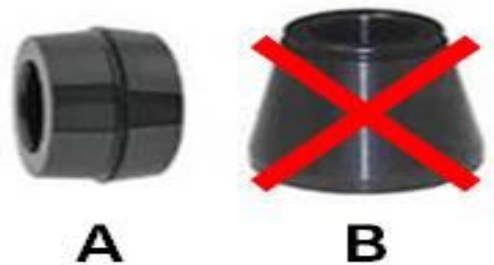
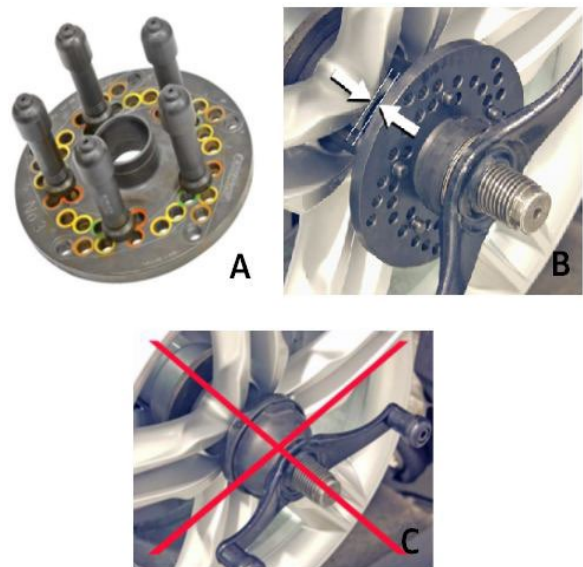

Figure 2. Example of a collet (A) vs. a centering cone (B).
Figure 3. Five-finger style clamping plate (A), wheel properly mounted with a five-finger style clamp (B),
- Ensure that the contact surfaces of the tire balancer flange and wheel are clean. It is mandatory that the appropriate centering collet (Figure 2, Image A)--not a cone (Figure 2, Image B)--and a five-finger style clamping plate (Figure 3, Image A) are used to mount the wheel on the balancer.
- An incorrect style of clamp could damage the wheel (Figure 3, Image C).